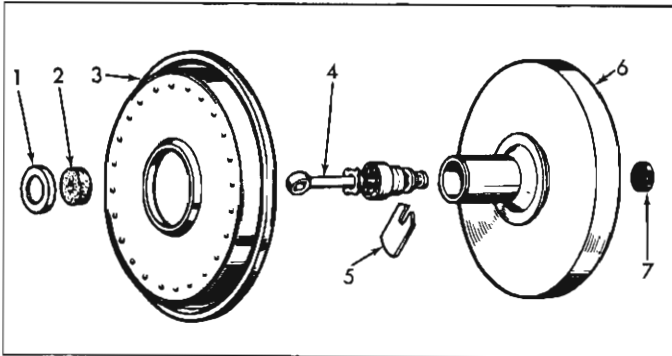

Fig. 7—Power Piston Exploded View
12. Disassemble power piston. (See Figure 7.)
4. Assemble the power piston assembly. (See Figure 7.)